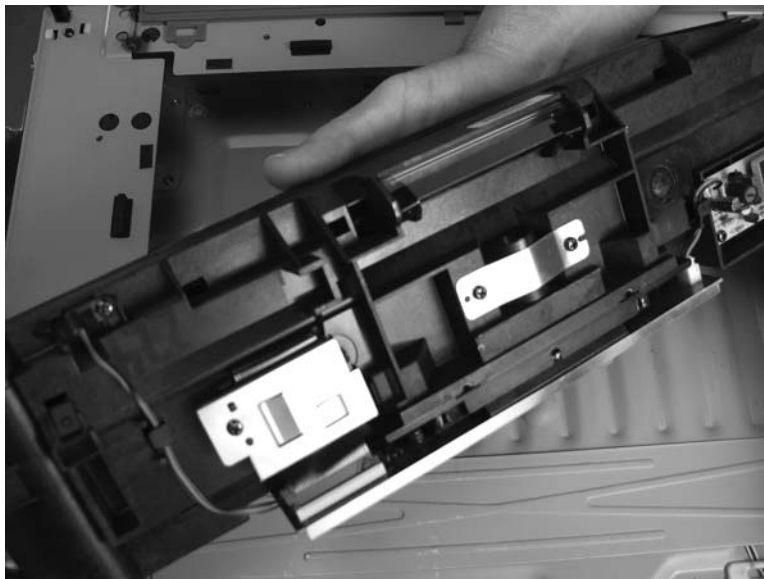

Figure 5-103 Remove the scanner optic assembly (8 of 13)
10. Figure 5-103 Remove the scanner optic assembly \(8 of 13\) on page 243 shows the optic assembly removed from the scanner bed. Note the location of components underneath the assembly. Do not touch these components. Proceed to the next step to remove the optic assembly.
CAUTION Do *not* touch the lens, mirrors, lamp, or components underneath the assembly when handling the optic assembly. Figure 5-103 Remove the scanner optic assembly \(8 of 13\) on page 243 shows the components underneath the assembly.